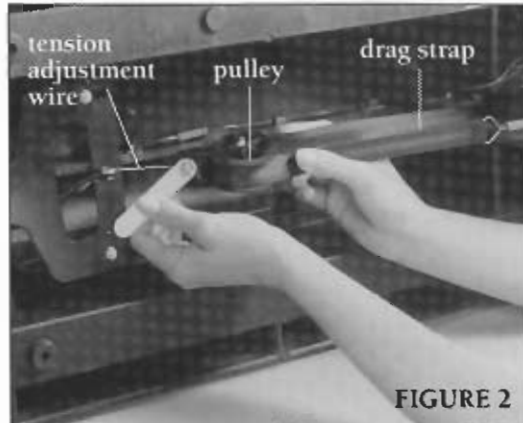

FIGURE 2
4. Using the $5/16"$ wrench provided, remove the front pulley from the tension adjustment wire (Figure 2). Set the bolt and nut aside for later use.